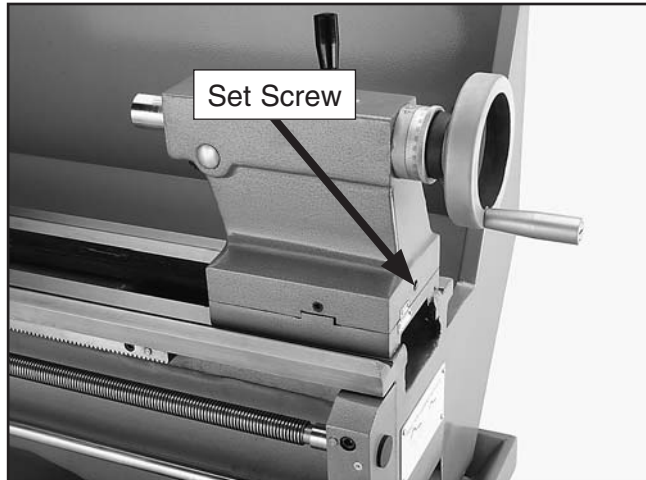

Figure 32. Tailstock off-set adjustments.
1. Lock the tailstock in position and loosen the set screw located on the end of the tailstock (see **Figure 32**).